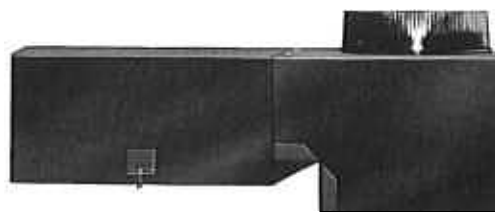

FIGURE 10
7. Attach Draft Hood to Flue Collector with two (2) #10 x 1/2" sheet metal screws. Refer to Figure 10.